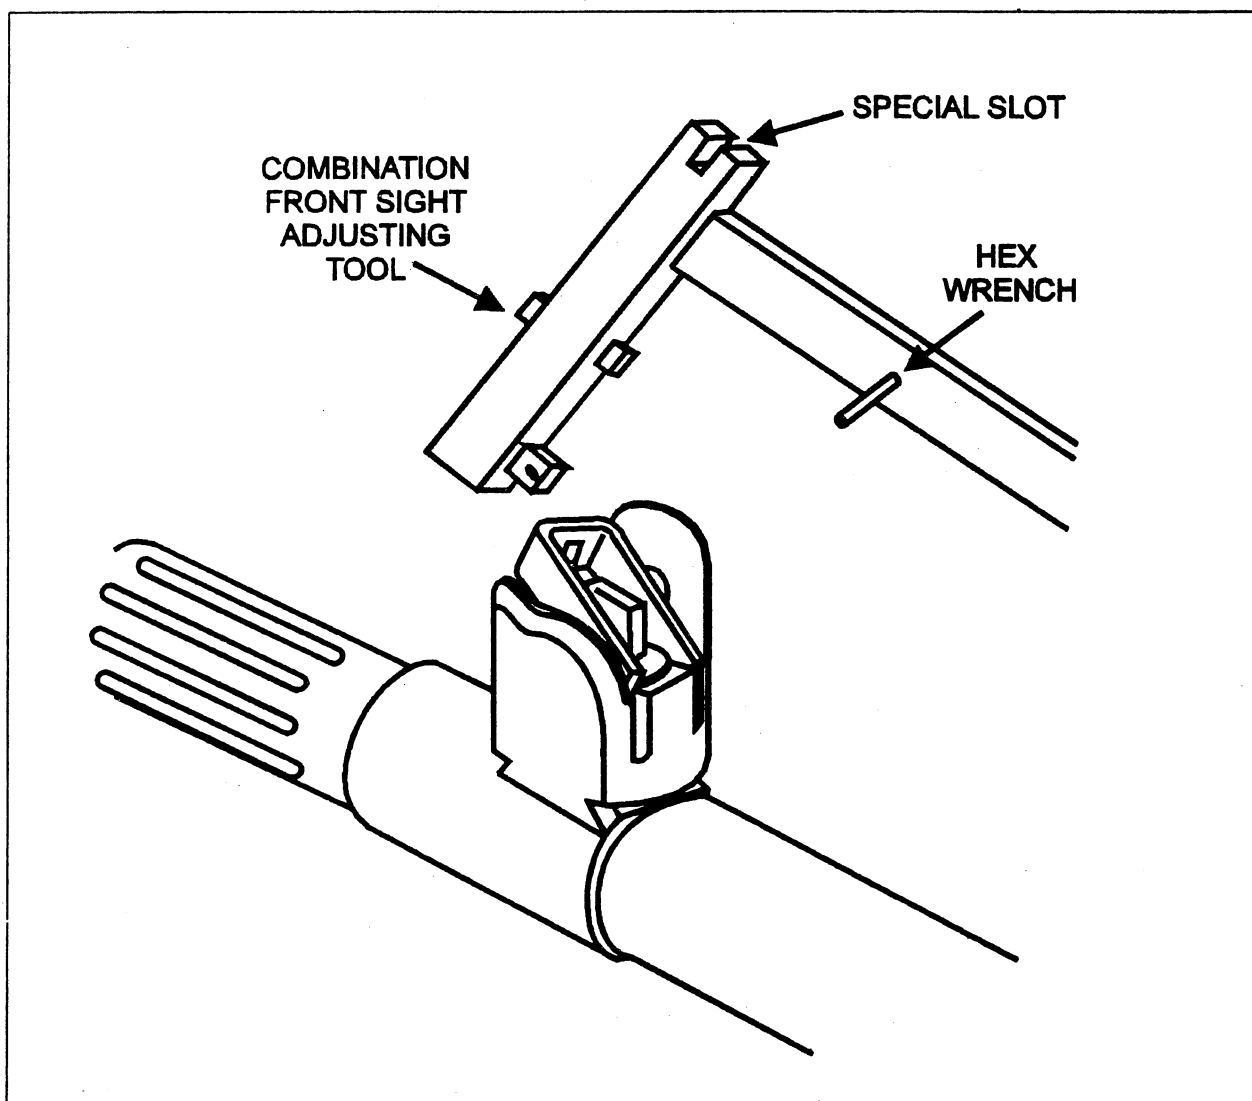

Fig 1-2. View of the combination front sight adjusting tool unlocking the front sight blade retaining strap.
- (1) Elevation. You can change the elevation by using the combination front sight adjusting tool (see fig 1-2). This tool serves two purposes--one end unlocks the front sight blade retaining strap, and the other end turns the front sight blade for elevation changes with its special slotted end piece.